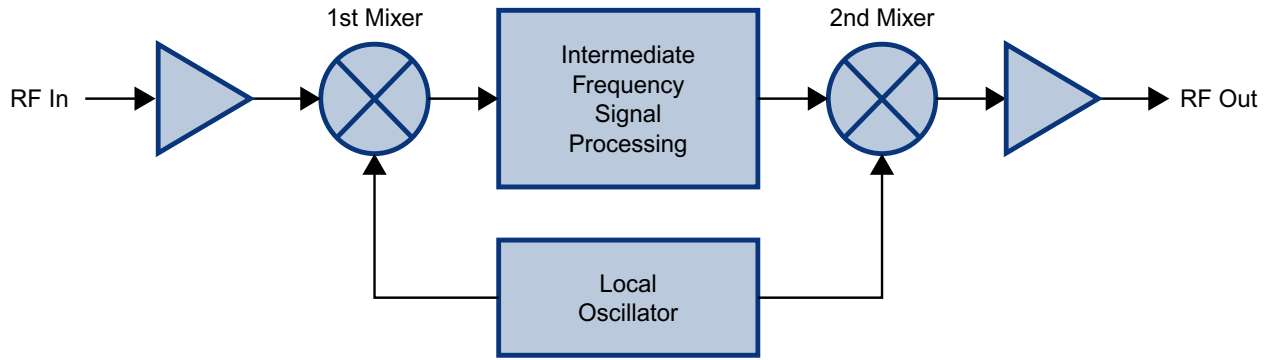

Figure 1: The down converter / up converter process.
- Figure 1:** The Down / Up Converter Process 3
Figure 1 shows a simplified block diagram that illustrates the down/up conversion principle. An incoming signal at (Freq IN) is amplified and applied to the first mixer along with a signal from a local oscillator (Freq LO). A third signal at an intermediate frequency (Freq IF) is produced as a result of the mixing. The intermediate frequency is given by the following relationship: